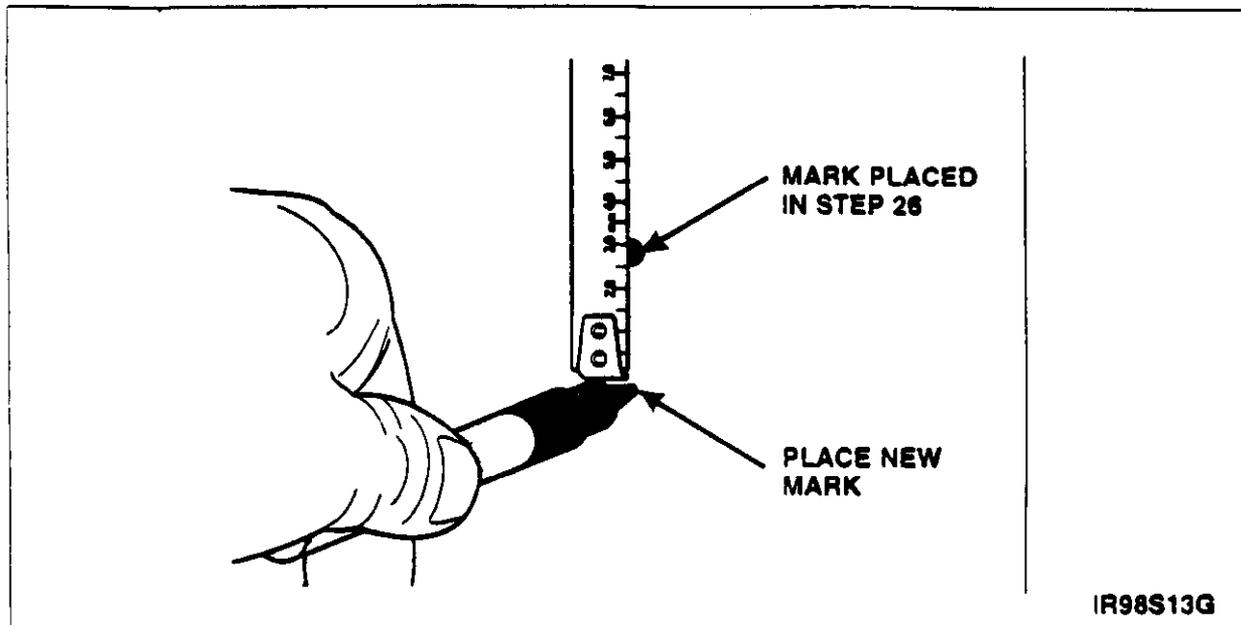

FIGURE 12
28. From marks placed previously, measure 29 mm toward front seat and place another mark. See Figure 12.